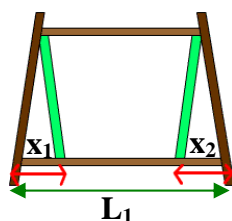
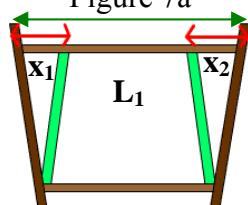

Figure 7a
Figure 8a
4.7.3 For adjacent floors in the model, if the floor above is wider than the one below when viewed from the side, such as in Figures 7a and 7b, the projection length of the bracing to the floor below, x_i , should be used, and L_i should be taken as the column spacing on the bottom floor. Meanwhile, if the floor below has a larger width than the one above, as in Figures 8a and 8b, then x_i should be the upward projection length of the bracing to the floor above, while L_i is the column spacing on the top floor.